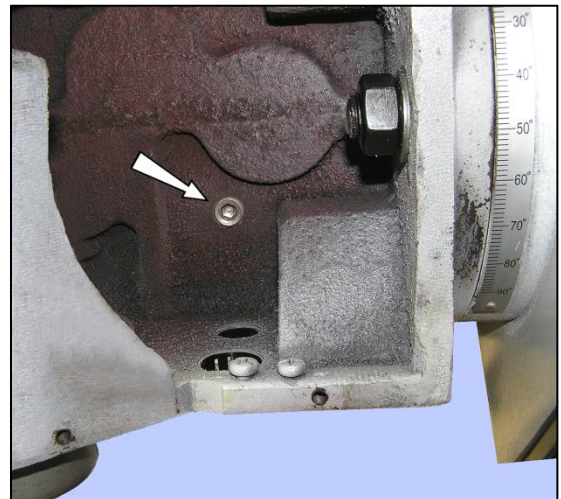

Figure 3-1 Gearbox drain plug
4. Using a 6 mm hex wrench remove the drain plug, Figure 3-1.